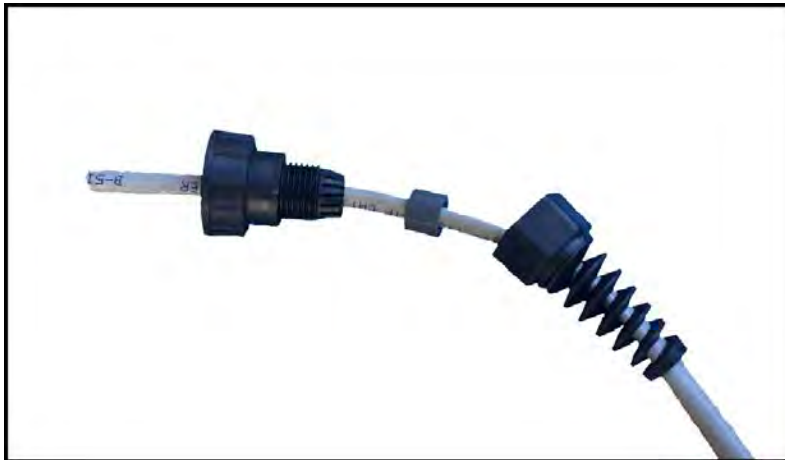

Figure 10: Proper order of connector body, rubber seal, and strain relief
5. Feed the Cat6 cable through the strain relief, round rubber seal, and connector body in the order shown in Figure 10.